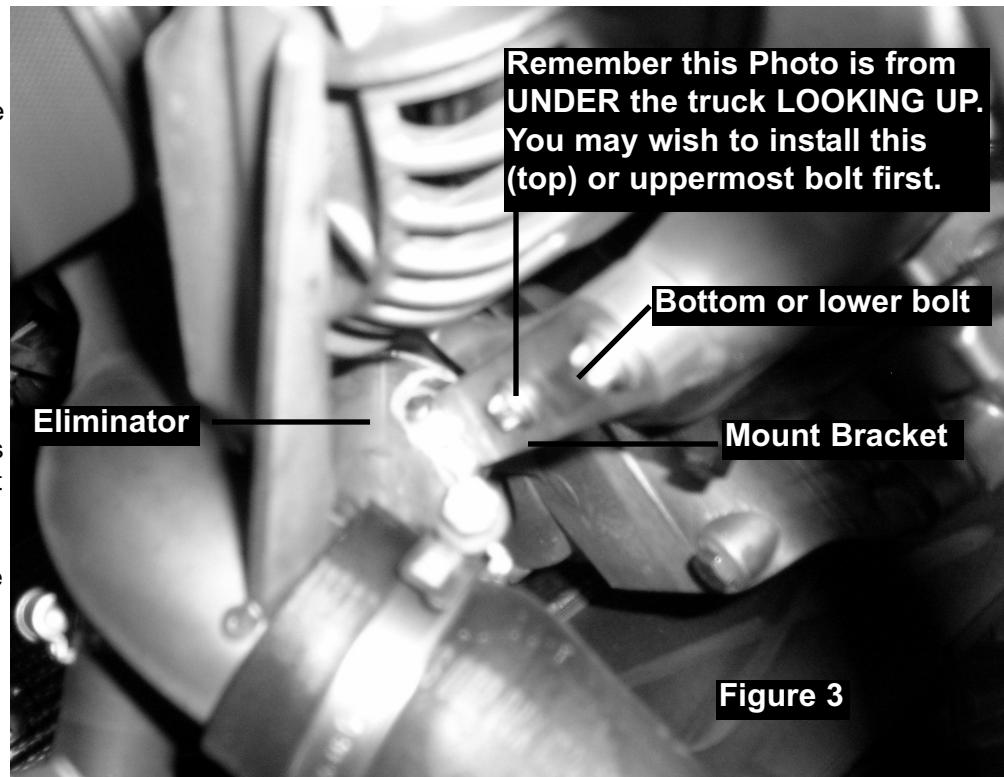

Figure 3
Step 3.) The two mount bracket bolts have "Torx" type heads. For those of you unfamiliar with the "Torx" bolt head configuration, they look different than a normal bolt at first glance. No worries. Take out your short 1/4 inch box end wrench (or small ratchet and 1/4 inch socket) and remove both of the Torx bolts (**See Figure 3**) attaching the resonator mount bracket to the alternator mount bracket. This is much easier than trying to find and fit a Torx driver into this rather confined space.
Figure 3) and then tighten the intake hose clamp (**See Figure 4**). PLEASE BE SURE TO FOLLOW THE TIGHTENING TORQUE GUIDELINES IN FIGURE 4 for the new ENCLOSED Norton clamp. The Turbo hoses carry a lot of pressure and our clamp is designed to take this pressure when tightened to our specs. Also be sure that the hose end is CLEAN. Some techs have told us they use a little Windex in the end of the hose to be sure it is oil-free. That's it! You are done and you can now forget about ever having another turbo resonator leaving you stranded. The only difference you may notice is a little more "turbo whine" or "turbo chirp" under hard acceleration, which is certainly not annoying. I'll take a little more whine any day over being stranded! Now you too can fully ENJOY the best vehicle in the world without turbo resonator worries. **NOTE:** If you replaced your resonator with our Eliminator after a failure of the resonator, it may take a few days of "Starting cycles" for the "check engine light" to turn itself off. This is normal.